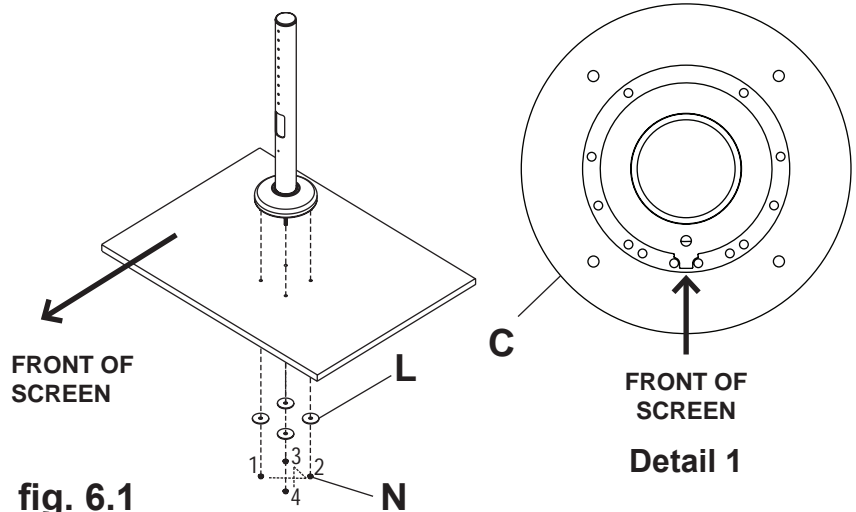

fig. 6.1
- 6** Align base assembly (step 5) with supporting surface and base (C) pattern facing the front as shown in Detail 1. Tighten four fender washers (L) with four lock nuts (N) in the sequenced pattern shown in Figure 6.1 with the 1/4 - 20 locknuts (N) at minimum flush with the bottom of the threaded rods (M).